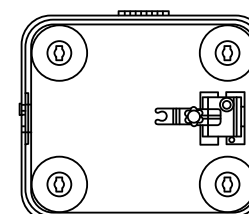

Figure 4
- Finally, as shown in Figure 4 below, rotate the water pump knob to lock the water pump to complete the installation.